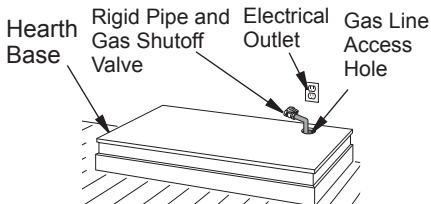

Figure 17 - Placing Hearth Base Accessory Against Wall
4. Place hearth base accessory against wall at installation location. Cut an access hole in hearth top to run flexible gas line to firebox (see Figure 17). Make sure to locate access hole so cabinet mantel will cover it when installed. **Note:** You can secure base to floor using wood screws. Countersink screw heads and putty over.